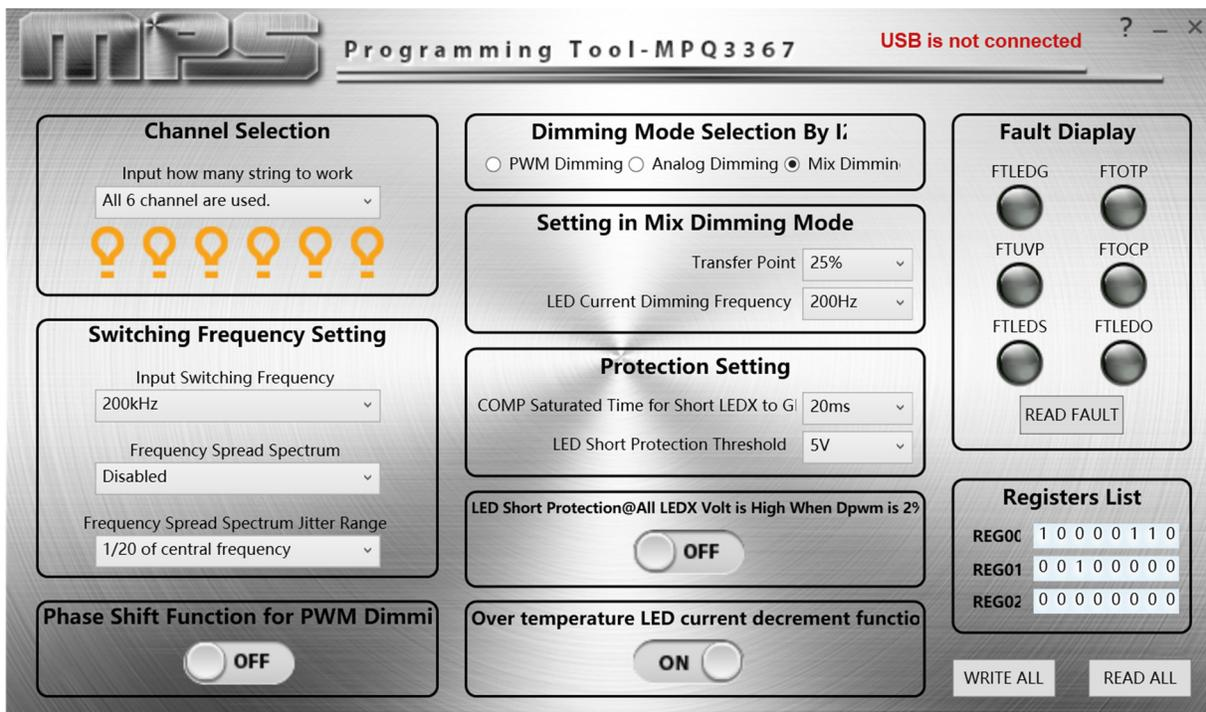

Figure 1: MPQ3367 GUI (I²C Kit Is Not Connected Properly)
- b. Check that the I²C kit is connected to the PC properly. If the message "USB is not connected" appears in the top right of the GUI⁽¹⁾, then the I²C kit is not connected properly and cannot communicate with the PC (see Figure 1). Otherwise, the I²C kit is connected properly and can communicate with the PC.